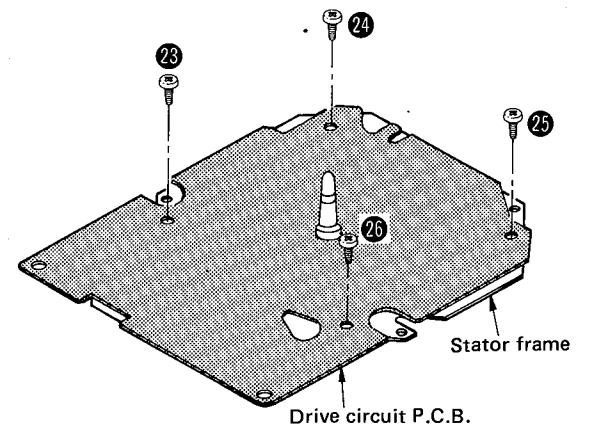

Fig. 7
4. Remove the 4 setscrews (Fig. 7 : 23 ~ 26) to separate the drive circuit P.C.B. and stator frame.